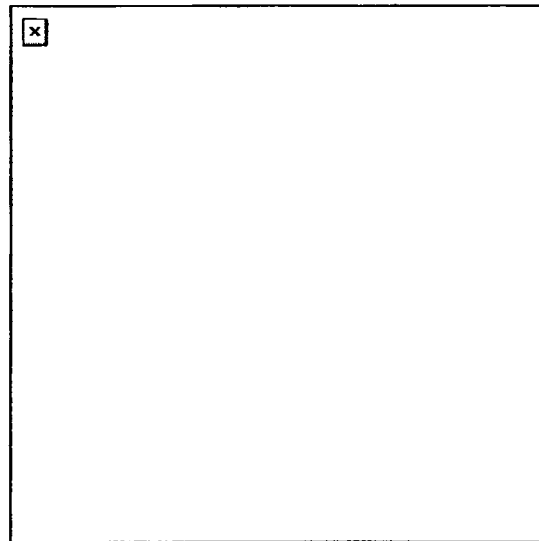

Figure 191-376-5125-4
5. Tag each piece of evidence with DA Form 4002. Refer to Figure 191-376-5125-4.